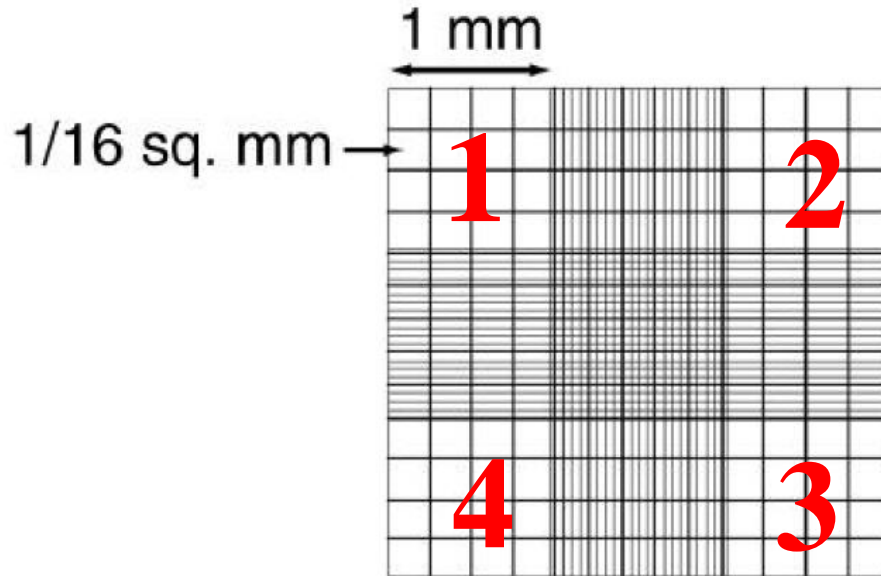

Figure 2: Diagram of hemacytometer quadrants
- 8.4.1. The grid is divided into four main quadrants (Figure 2). Beginning with quadrant 1 and moving through to quadrant 4, depress the correct button on the push button counter for every cell in each square.
- 9.2. Figure 2: Diagram of hemacytometer quadrants